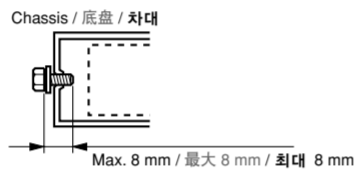

Figure 3 / 图 3 / 그림 3
- Use the enclosed screws for installation. Using other screws can cause damage. (Figure 3)
- 请使用耐带的螺丝进行安装, 使用其他螺丝可能引起故障。(图3)